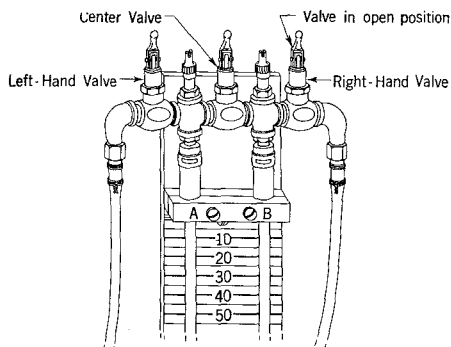

Fig. 2 — Valve Arrangement on B Flow Indicator
- (1) Carefully remove the instrument from the case and set it up on the pavement or on top of the case.
- (2) Place the U tube in the 45° position.
- (3) Level the base of the instrument by means of the adjusting screws and spirit levels.
- (4) Make sure the left- and right-hand valves of the indicator are closed. Open the center valve and level the alcohol in the two legs of the tube to the same height on the scale by means of the two front adjusting screws. (See Fig. 2.)